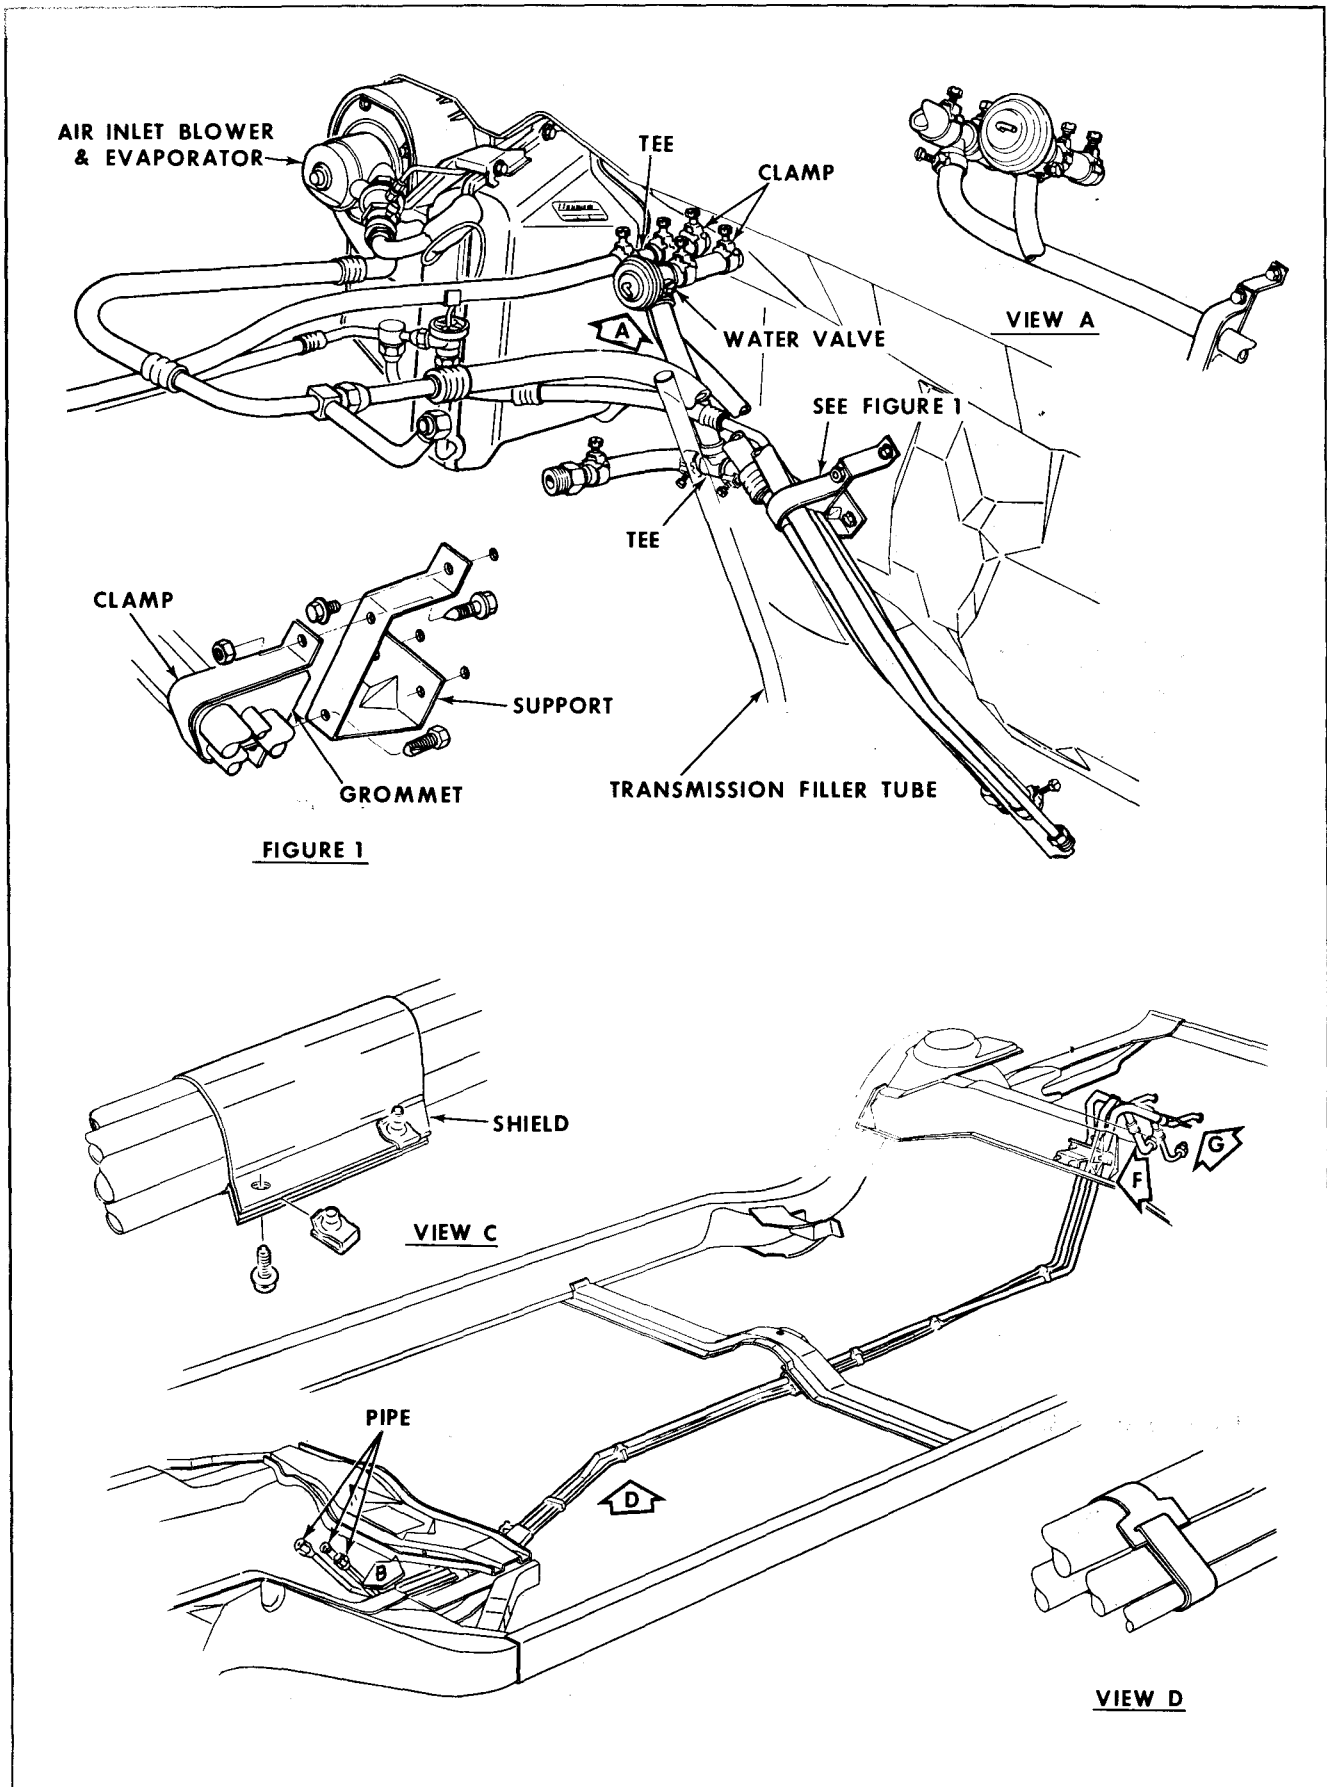

Fig. 1-117 Refrigerant and Water Lines
7. Connect heater supply and return hoses, air conditioner high and low pressure hoses, and vacuum hose at connectors under blower evaporator assembly. Refer to Fig. 1-117. Recover low pressure hose with insulation.